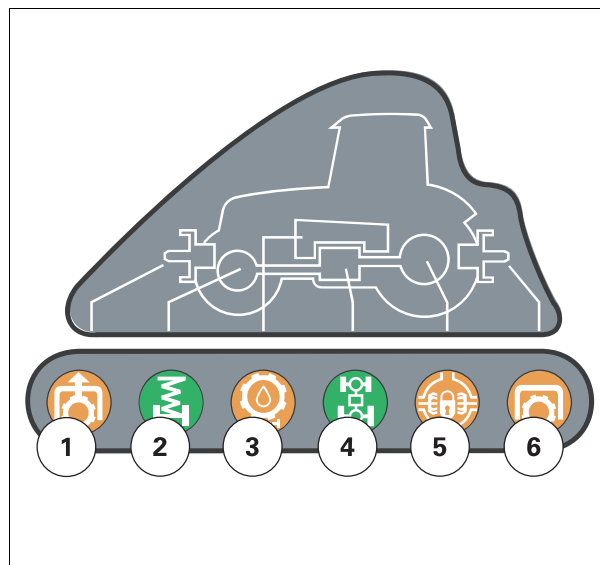
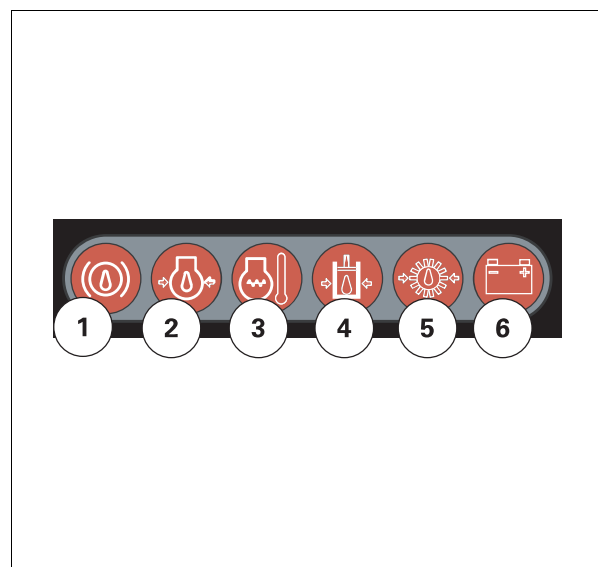

Fig. 3.
Fig. 5.
- (4) Right-hand directional indicator lights (green)
- (5) Left-hand directional indicator lights (green)
- (6) Failure indicator lights fig. 5
- (7) High beam indicator light (blue)
- (8) Direction indicator light for the first trailer (green)
- (9) Direction indicator light for the second trailer (green)
- (10) Indicator lights for functions in use fig. 3